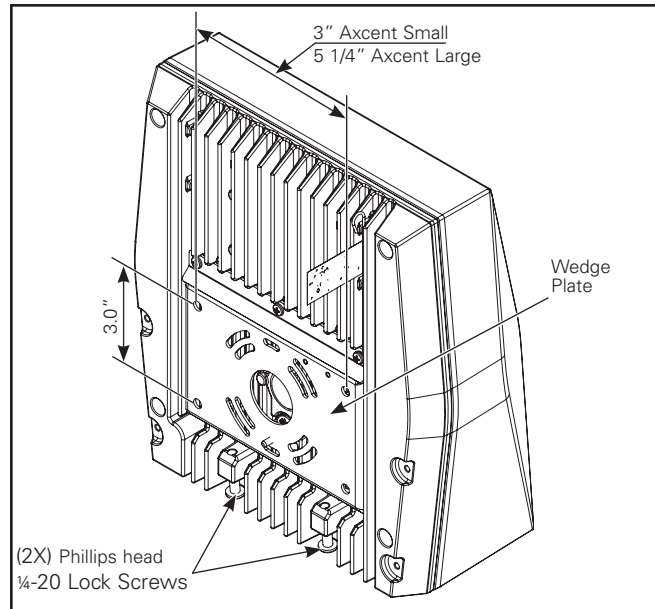

Figure 1.
1. Remove the wedge plate by loosening the (2) ¼-20 Phillips head screws on the fixture. (Figure 1.)
1. The fixture comes with a wall mount wedge plate pre-installed. Remove the wall mount wedge plate and discard. (Figure 1.)